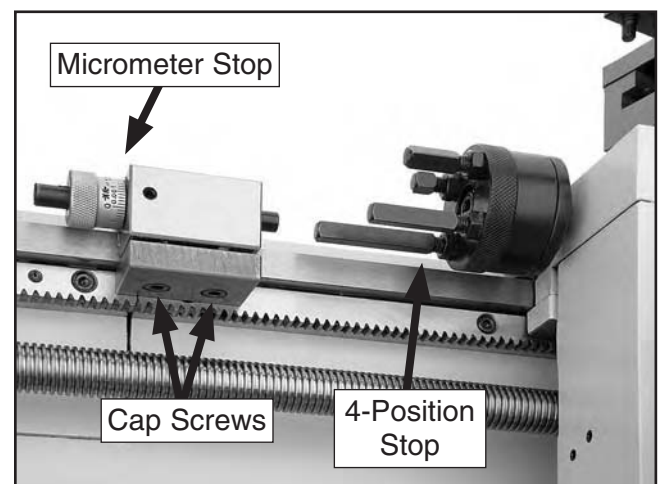

Figure 71. Micrometer and 4-position carriage stops.
The 4-position and micrometer carriage stops, shown in **Figure 71**, are used to accurately position the carriage during operation. The knurled knob of the micrometer stop fine tunes the extension of the stop rod, and the 4-position stop provides four different stop positions. This is very useful when cutting shoulders, spacing grooves, or facing work to length.
2. Loosen the two cap screws underneath the micrometer stop (see **Figure 71**), position it as needed along the bedway, then re-tighten the cap screws.